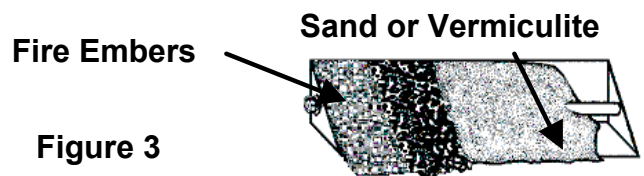

Figure 3
3. The small vermiculite may be sprinkled over the rockwool for an ash affect. **See Figure 3**